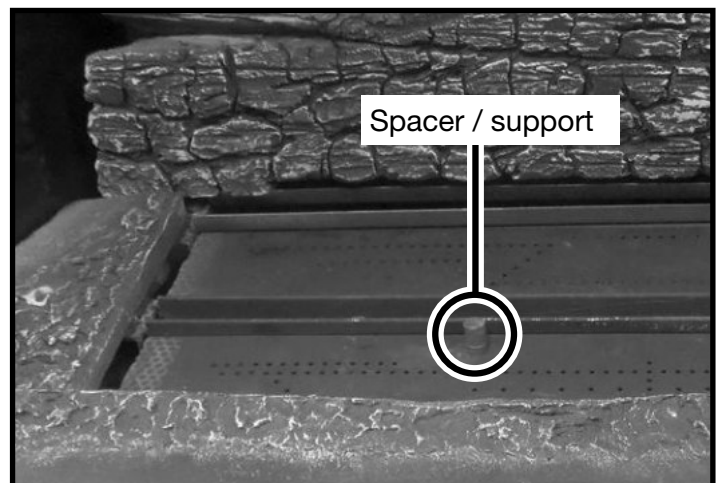

Figure 73: Spacer support.
8. Place included metal spacer/support over top of the left-hand side post located on the front burner (Figure 73). This spacer will support the front end of log number two.